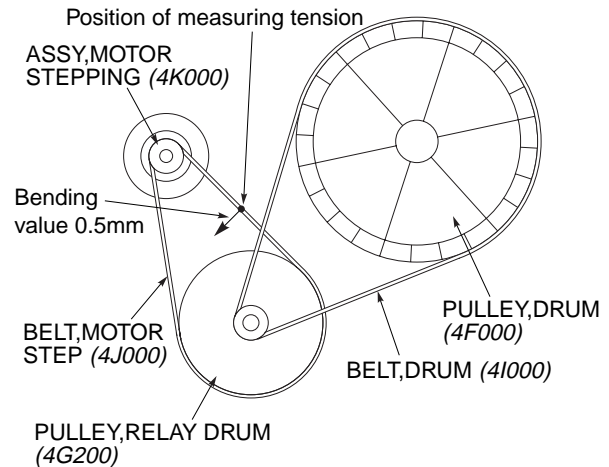

Fig. 3-6-3
- d. Set the Ruler (VJ8-0228) along the "BELT, MOTOR STEP (4J000)", confirm that the pressure welding value is $[0.34N \pm 0.15N]$ when pressing the Dial Tension Gauge DTN-100G (VJ8-0227) until the play in the "BELT, MOTOR STEP (4J000)" is 0.5mm. The measuring position and the direction of pressure on the "BELT, MOTOR STEP (4J000)" are shown in Fig. 3-6-3.
- e. If the pressure welding value is not $[0.34N \pm 0.15N]$, loosen the "NUT HEX 3 (4L000)" (B) and fine-adjust the "ASSY, MOTOR STEPPING (4K000)", then retighten the "NUT HEX 3 (4L000)" (B) again.